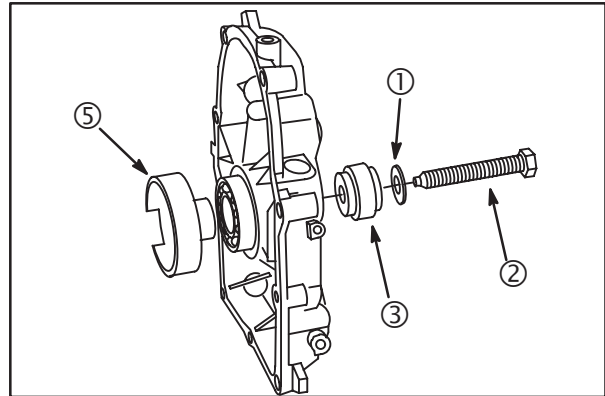

Fig. 17
1. Place ball bearing on to Support **#19440**, **Fig. 17**.
2. Assemble washer (1), to puller screw (2).
3. Insert screw (2) and washer (1) through pilot (3) and thread into support (5). Tighten screw until bearing is seated.